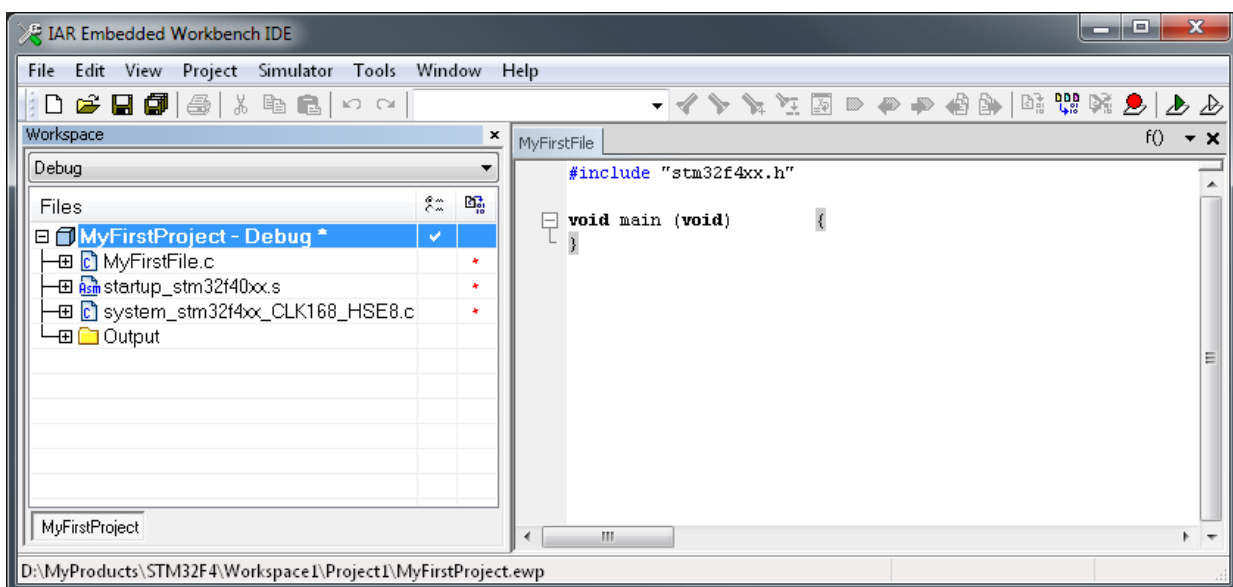

Figure 3.7: A fully defined minimal project within a workspace
The result is the IAR EWB window shown in Fig. 3.7.
- The compilation and linking can be initiated either from the menu (“Project” -> “Compile”) or simply by pressing F7. There is also an icon on the toolbar to initiate the compilation (Fig. 3.7, fifth icon from the right on the toolbar).